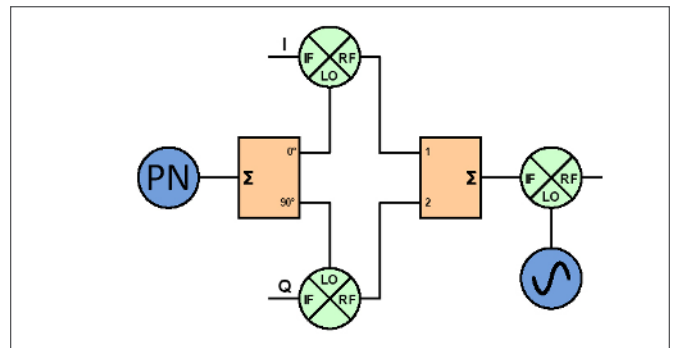
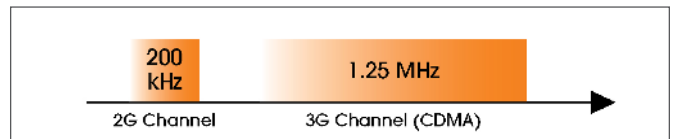
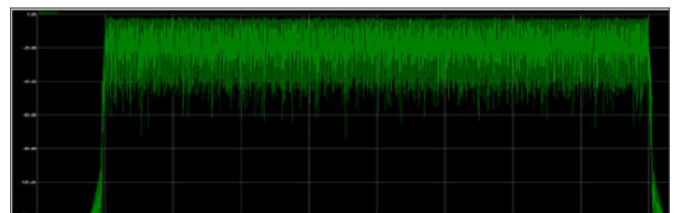

Figure 1: CDMA Transmitter Fundamentals Block Diagram
Figure 2: 2G vs. 3G Channel Bandwidth
Figure 3: Power/Frequency Spectrum of an Orthogonal Modulated Carrier
3G represented a significant advancement in digital communication. Military developments in spread spectrum technology spun off into the commercial space leading to Code Division Multiple Access (CDMA) and the higher data rate wideband CDMA (WCDMA) shown in *Figure 1*. As shown in *Figure 2*, this scheme used a Pseudorandom number waveform (PN) and quadrature modulation that required more bandwidth than the previous 2G channels. Additionally, the orthogonal modulation used has extensive peak power excursions, seen in *Figure 3*.